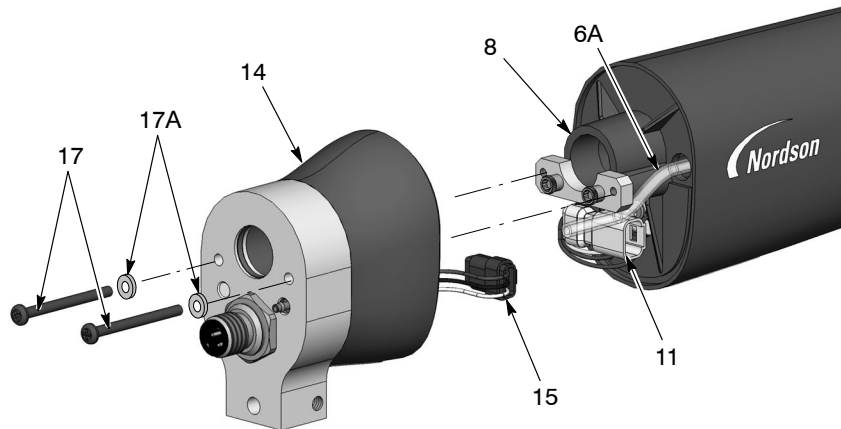
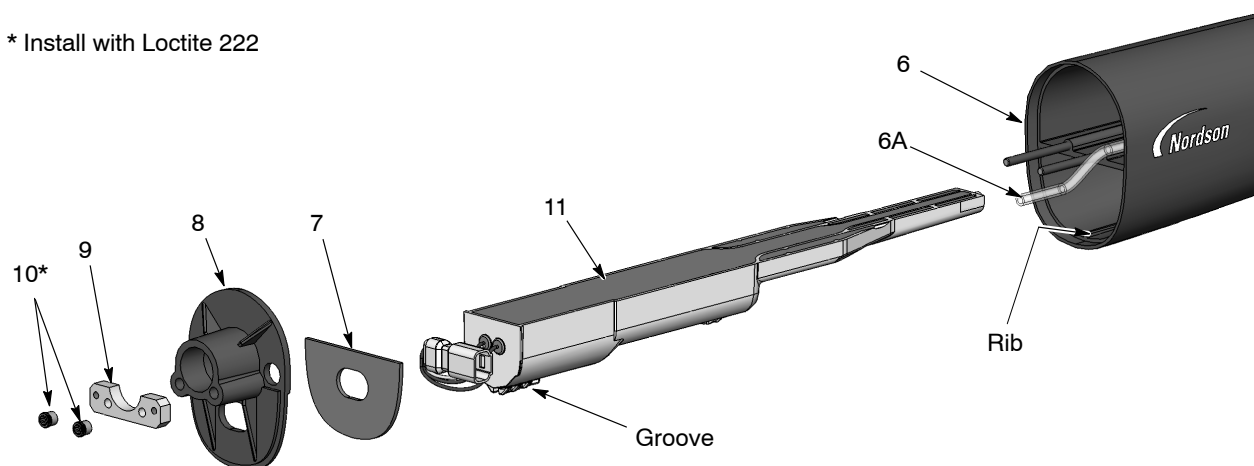

Figure 22 Bar-Mount Gun Disassembly 1 of 3
Figure 23 Bar-Mount Gun Disassembly 2 of 3
4. See Figure 23. With a $\frac{1}{8}$ -in. hex key, remove the two Allen nuts (10) and screw plate (9) from the bulkhead (8). Then remove the bulkhead from the gun body (6), feeding the power supply harness through the bulkhead.
5. Slide the power supply (11) out of the gun body.
7. The gasket (7) is attached to the bulkhead with pressure sensitive adhesive. If the gasket is damaged, replace it with a new one.
1. See Figure 23. Install the power supply (11) into the gun body (6), making sure the gun body rib fits into the groove on the power supply. Seat the power supply firmly into the gun body.
2. Feed the power supply harness through the bulkhead, then install the bulkhead (8) and screw plate (9) over the gun body studs. Apply Loctite 222 to the Allen nuts (10), then install the nuts on the studs and torque them to 0.45 N•m (64 inch-ounces) with a 1/8-in. hex key.
3. See Figure 22. Connect the receptacle harness (15) to the power supply harness (11). Tuck the harness connectors (11, 15) into the rear body assembly in the positions shown.
4. Connect the clear filter tubing (6A) to the barbed fitting on the inside of the rear body assembly (14). Feed any extra clear air tubing into the gun body, then install the rear body assembly onto the bulkhead with the screws (17) and lock washers (17A).